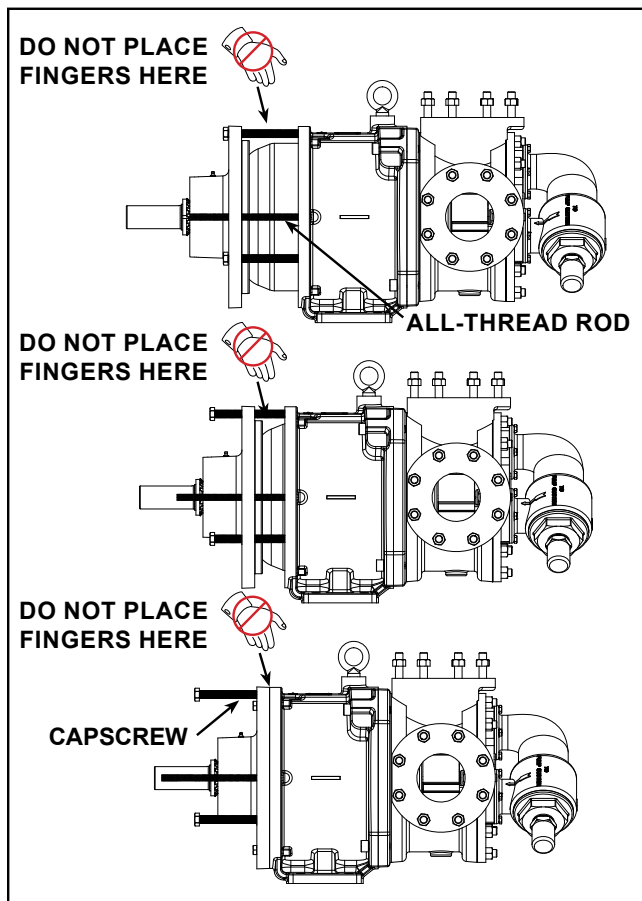

FIGURE 18
Do not place fingers onto the front of pump mounting flange. Align the canister into bore of the bracket and gently slide it in. When the magnets start to engage, the unit will finish engagement on its own very rapidly unless the 5/8" x 6" capscrew is properly used. Make sure fingers are not on the front of the pump. See Sequence in Figure 18.
17. Insert three fully threaded 5/8" X 6" hex head capscrews into the bearing housing until they are fully extended in front of the bearing housing to control assembling the pump, see **Figure 18**. To keep the bearing housing and bracket assemblies properly aligned and for additional safety, it is recommended to use 2 lengths of all-thread rod (12") threaded into opposite capscrew locations in the bracket and slide through the corresponding holes in the bearing housing.